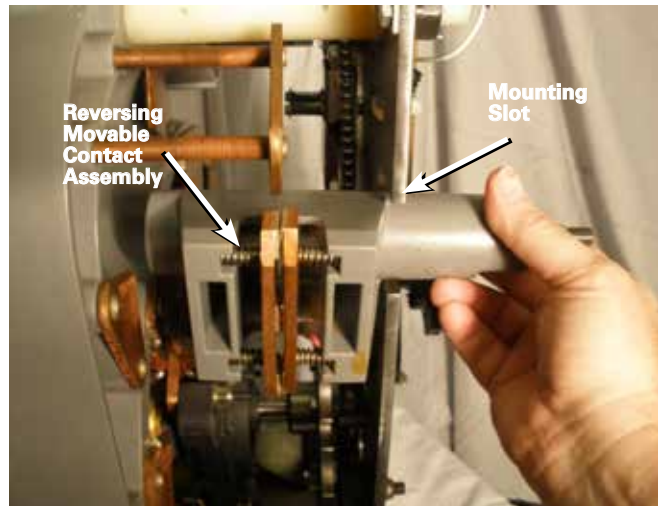

Figure 13. Reinstalling reversing movable contact.
- Place the reversing movable contact into the mounting slot in the tap-changer front panel, aligning the movable contact assembly with the reversing neutral stationary contact. The reversing neutral stationary contact should be inserted far enough into the contact board so that the blade lines up with the center of the reversing movable contacts. See Figure 13.